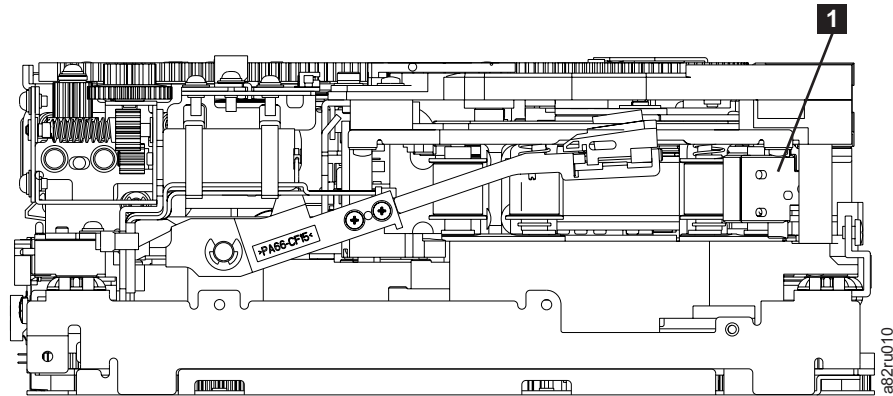

Figure 40. Leader Block Assembly (LBA)
- \_\_\_ Step 9. Rotate the threader motor worm gear ( **4** in Figure 39 on page 106) to turn the threader mechanism gear ( **6** in Figure 39 on page 106) counterclockwise. This moves the LBA out of the cartridge and past the read/write head. Stop this rotation when the LBA is near the tape guide roller nearest the rear of the drive shown as **1** Figure 40.